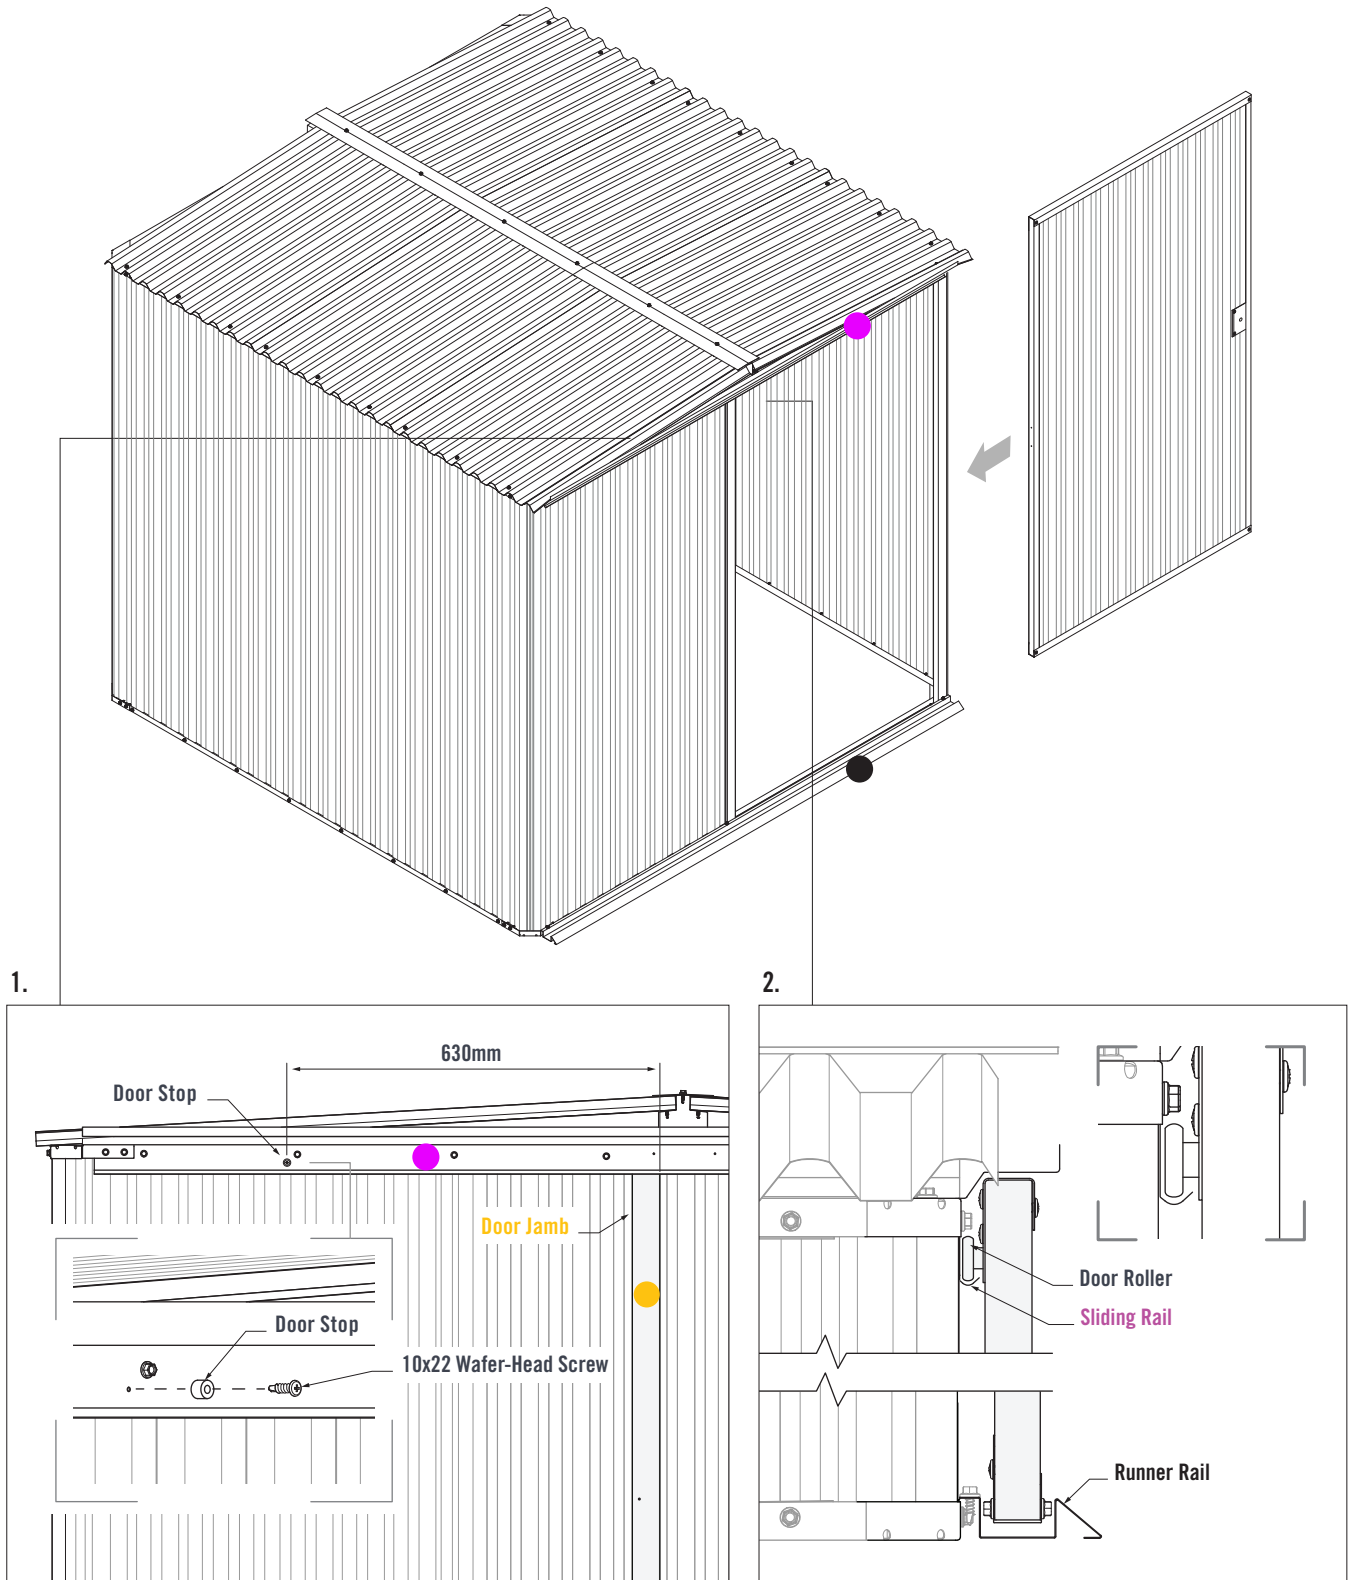

FIGURE 7.8
1. Fasten a 10x22 Wafer-Head screw through the Door Stop and into the pilot hole in the Sliding Rail. For reference, the Door Stop should be spaced 630mm from the Door Jamb (Figure 7.8).
2. Slide the Door into the Sliding and Runner Rails. The Door Roller should fit into the Sliding Rail at the top. The bottom of the Door should fit into the Runner Rail at the bottom (Figure 7.8).